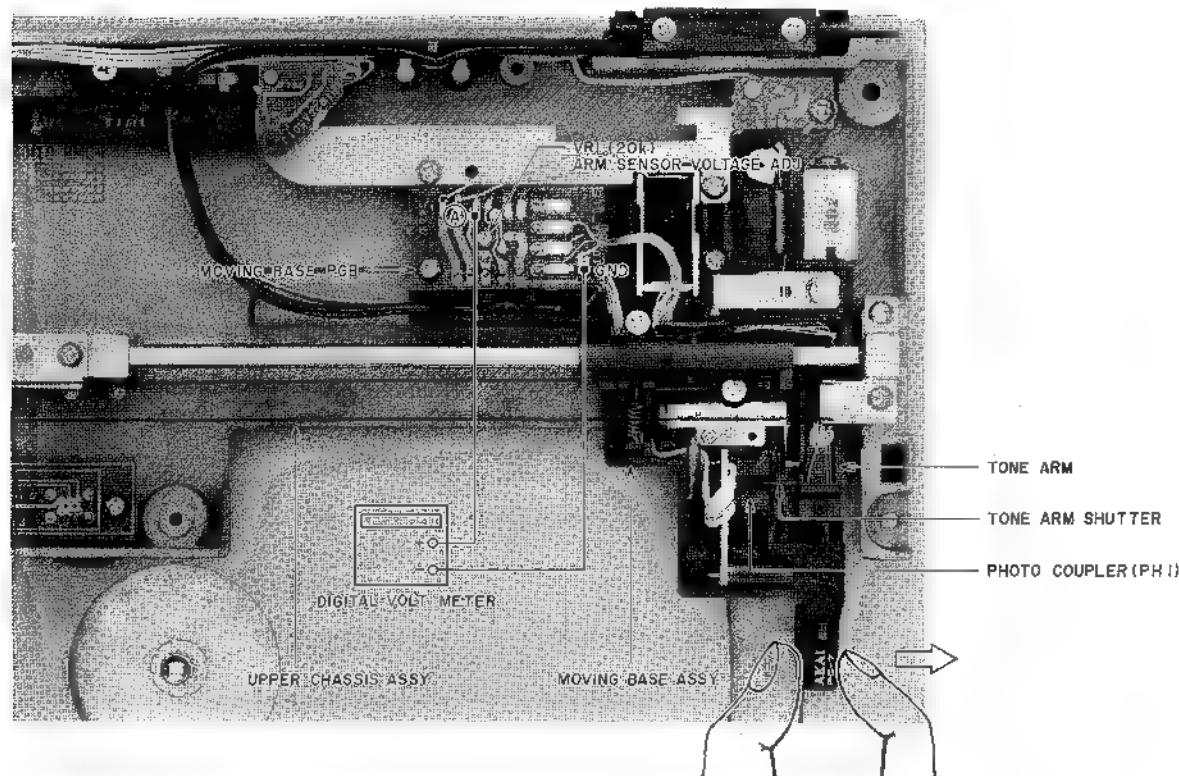

Fig. 7-1 Inside View of Moving Base Block
### 7-1. ARM SENSOR VOLTAGE ADJUSTMENT (Refer to Fig. 7-1)
- 2) Connect a digital voltmeter between the point A and ground. Move the Tone Arm by hand in the direction as shown in Fig. 7-1 to move the Tone Arm Shutter out of the photocoupler, and adjust VR1 on MOVING BASE P.C Board so that the voltmeter reads  $4.1V \pm 0.1V$ .
- 3) After the adjustment in item 2) is completed, move the Tone Arm back to the original position and confirm that the voltage at the point A is more than 1.8V. If the voltage is less than 1.8V, re-adjust VR1 so that the voltage is  $2.0V \pm 0.1V$ .